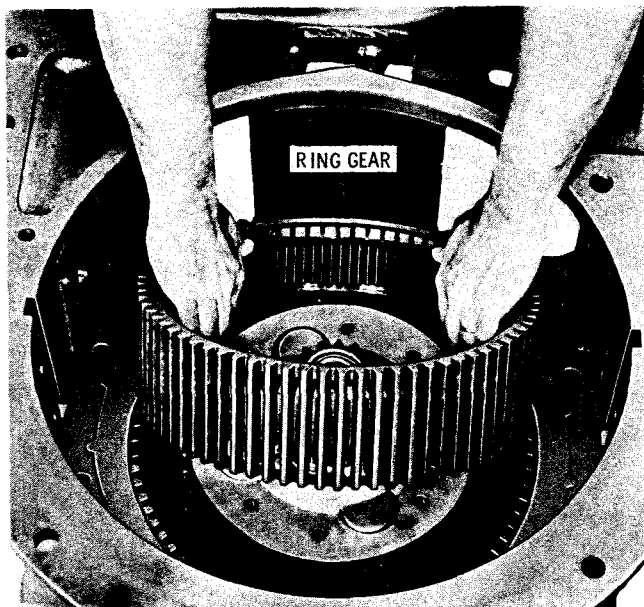

Fig. 5-70. Removing intermediate-range ring gear
(9) Remove the intermediate-range ring gear (fig. 5-70).